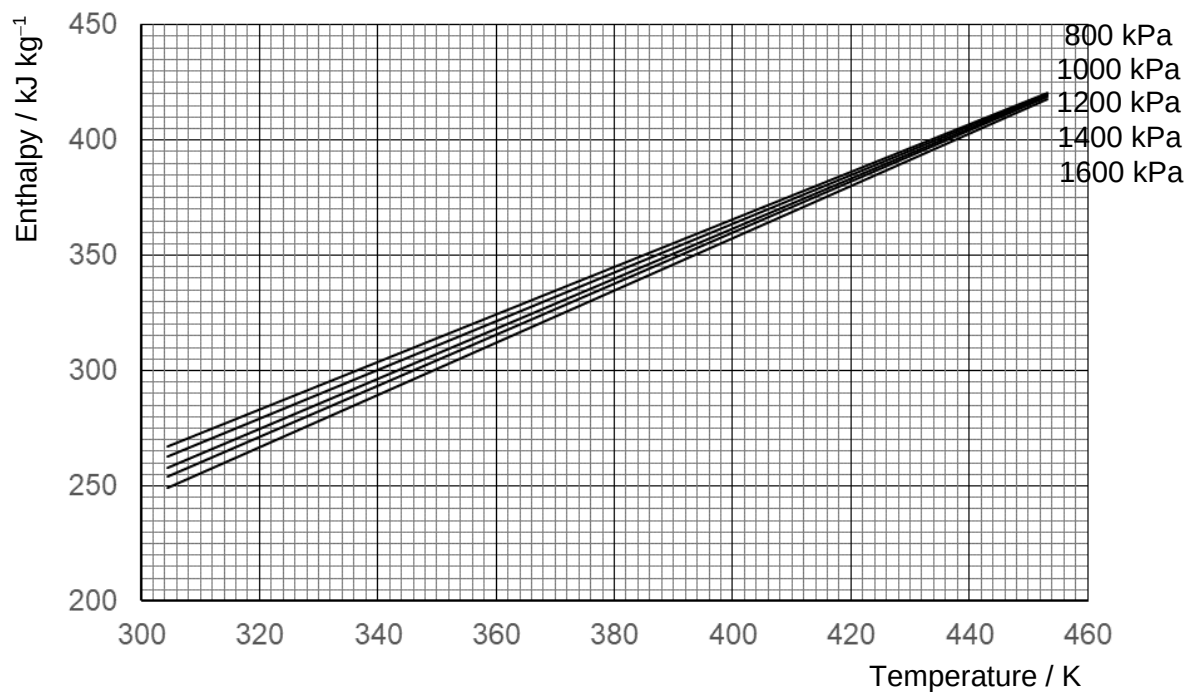
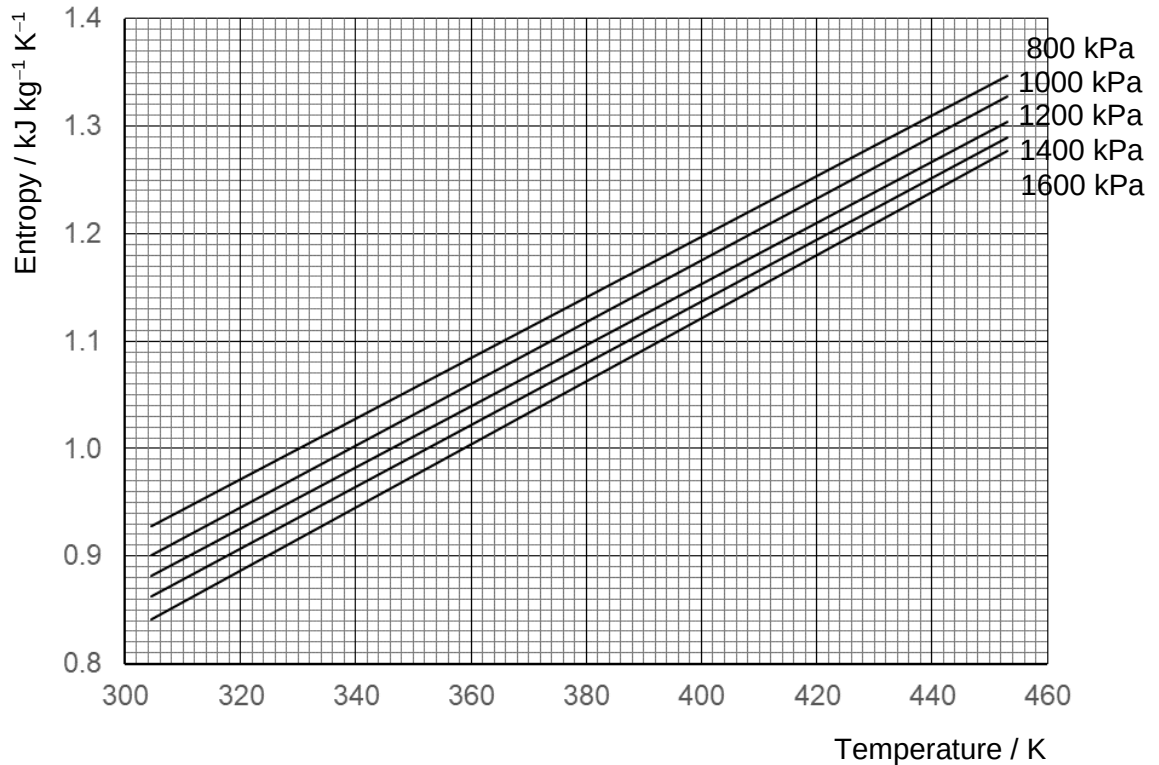

Fig. 8.4
Fig. 8.5
- (ii) At state Q, the enthalpy and entropy of the refrigerant at various pressures are shown in the graphs in Fig. 8.4 and Fig. 8.5.
1. Explain how Fig. 8.5 verifies that the temperature of the refrigerant at state Q is 322.0 K.
From Fig 8.4 (b), when entropy is 0.931, temperature is 322.0 K.
(read off 1200 kPa line on Fig. 8.4 for enthalpy at 322.0 K)